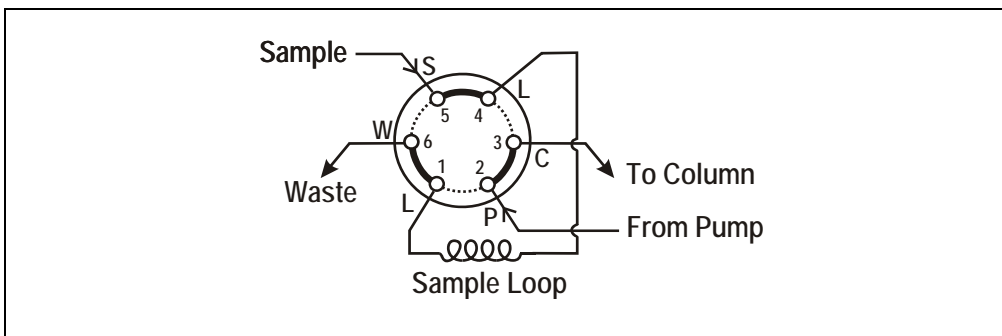

Figure 3-3. Injection Valve Connections
1. Make sure the injection port on the ICS-90 front door (see Figure 2-1) is connected to the sample port S (5) on the injection valve (see Figure 3-3).
1. Disconnect the waste line from port W (6) of the injection valve (see Figure 3-3) and attach a shorter line (10 to 12 inches of PEEK or Teflon® tubing).